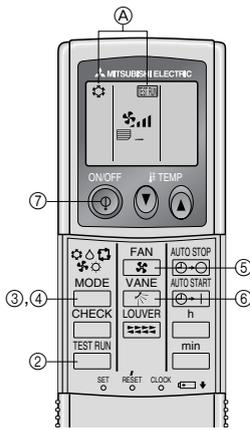

Fig. 7-2
7.2.2. Using wireless remote controller (Fig. 7-2)
- ① Turn on the power to the unit at least 12 hours before the test run.
- ② Press the **TEST RUN** button twice continuously.